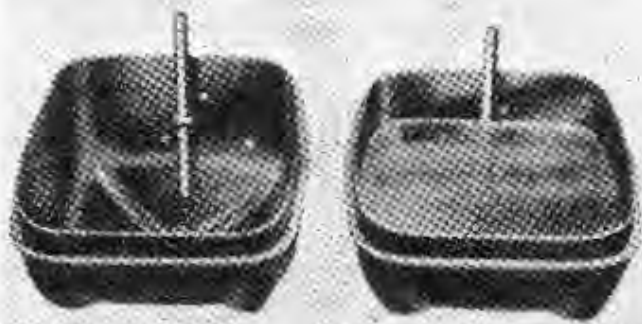

Fig. 1. Oil level in rocker covers
11. Fill the rocker cover to the level indicated by the collar on the drain pipe as shown in fig. 1, with oil to the specification given in the Leading Particulars. When refitting the rocker cover ensure that the joint washer is correctly positioned, and securely wire-lock the retaining screw.